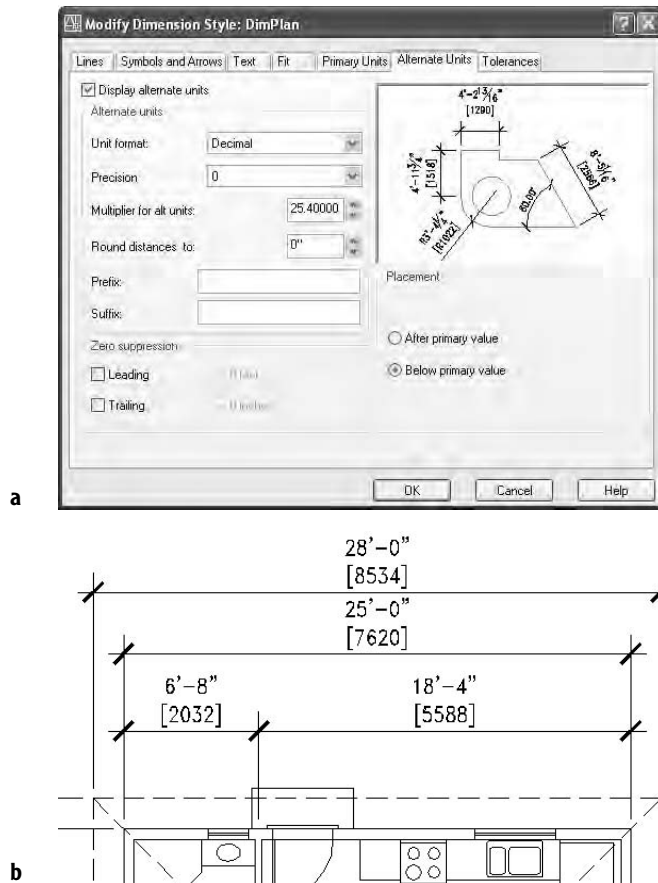

FIGURE 11.9: The Alternate Units tab after being set up for millimeters (a) and the resulting horizontal dimensions (b)
4. Click the Alternate Units tab. When we're finished here, it will look like Figure 11.9. There are only three or four changes to be made on this tab.